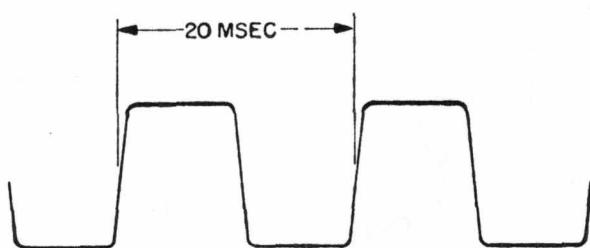

Figure 5-5. Modulator Waveform
- j. Waveform should be similar to that shown in Figure 5-5. Peak-to-peak amplitude should be approximately equal to dc voltage observed in step h. Signal frequency should be 5/6 power line frequency.